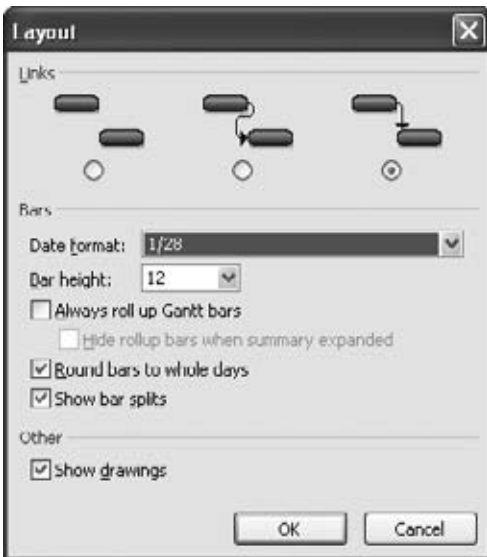

Figure 23-10:
- **Link lines.** The Layout dialog box, shown in Figure 23-10, has three link line options: an S, an L, or completely hidden.